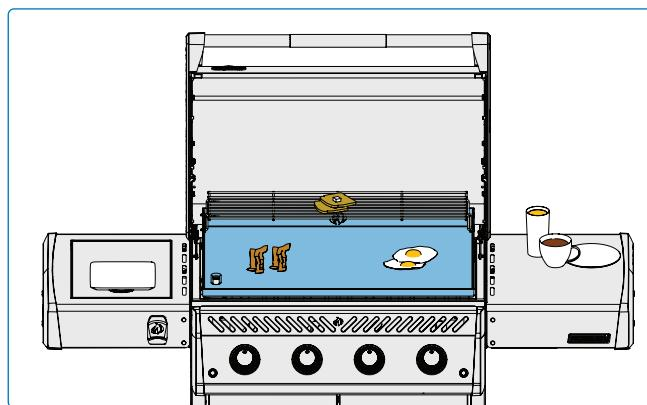

Fig. 9
- Use the two cooking zones to cook a variety of foods at different temperatures. (Fig. 9)